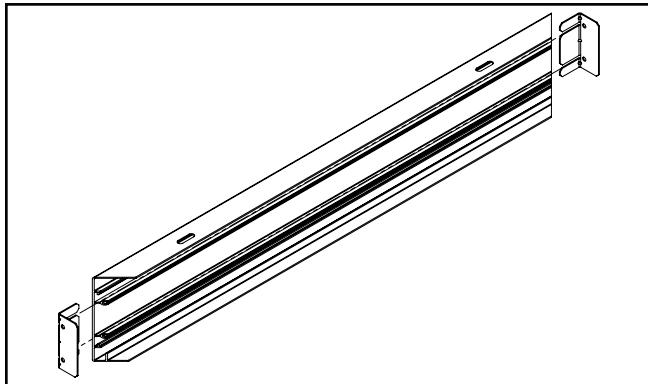

Figure 1.
- A1. Insert 1 L-bracket into the slot on each side of both type "A" rails as shown in Figure 1.